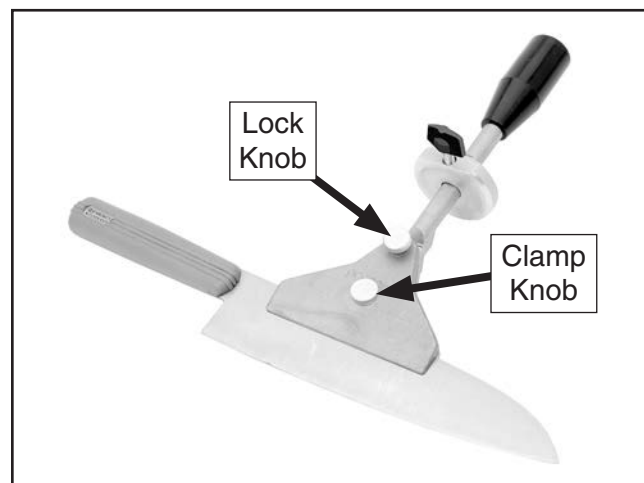

Figure 5. Example of knife blade secured in clamp (T32796 shown).
7. Insert knife blade into clamp, as shown in **Figure 5**, and tighten clamp knob to secure.
8. Tighten lock knob to secure (see **Figure 5**).